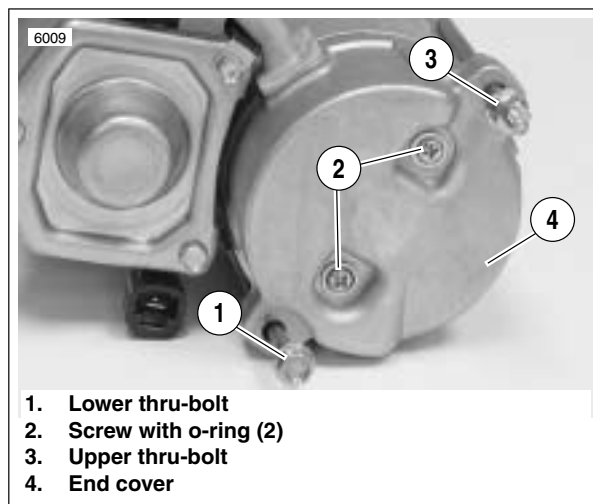

Figure 5-15. Removing the Thru-Bolts
2. See Figure 5-15. Remove both thru-bolts (1, 3).
3. Remove both end cover screws with o-rings (2) and end cover (4).